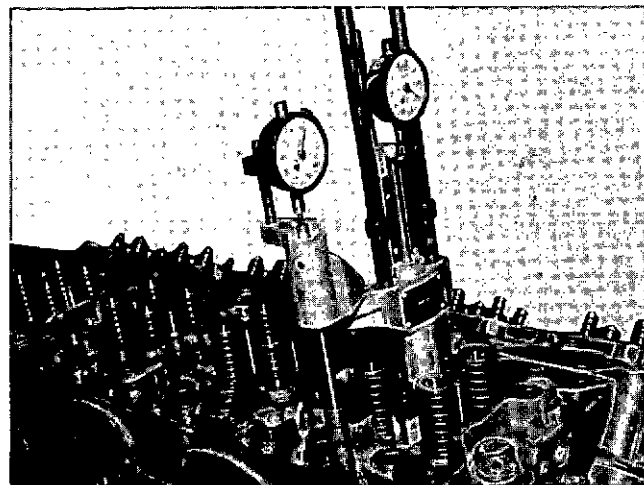
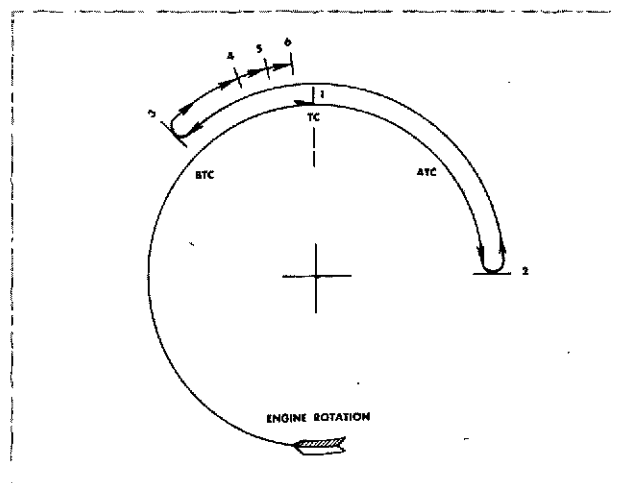

Fig. 14-1-42, V414143. ST-593 Injection Timing Fixture
Fig. 14-1-43, V31435. Engine Injection timing procedure diagram
3. Install timing tool in place of injector with one rod in push tube socket and with other rod resting on piston as shown in Fig. 14-1-42. Follow procedures as shown by diagram, Fig. 14-1-43, and instructions beneath to check injection timing. Numbers on the diagram show check points corresponding to numbered instruction steps.
Injection Timing Procedure (See Fig. 14-1-43)